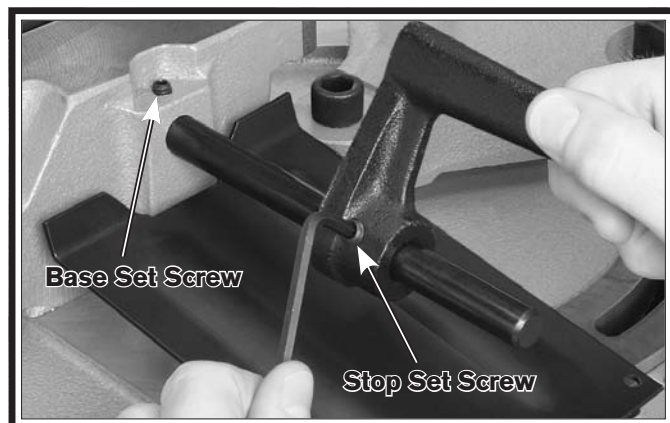

Figure 41. Installing stop rod.
3. Tighten the base set screw (**Figure 41**).